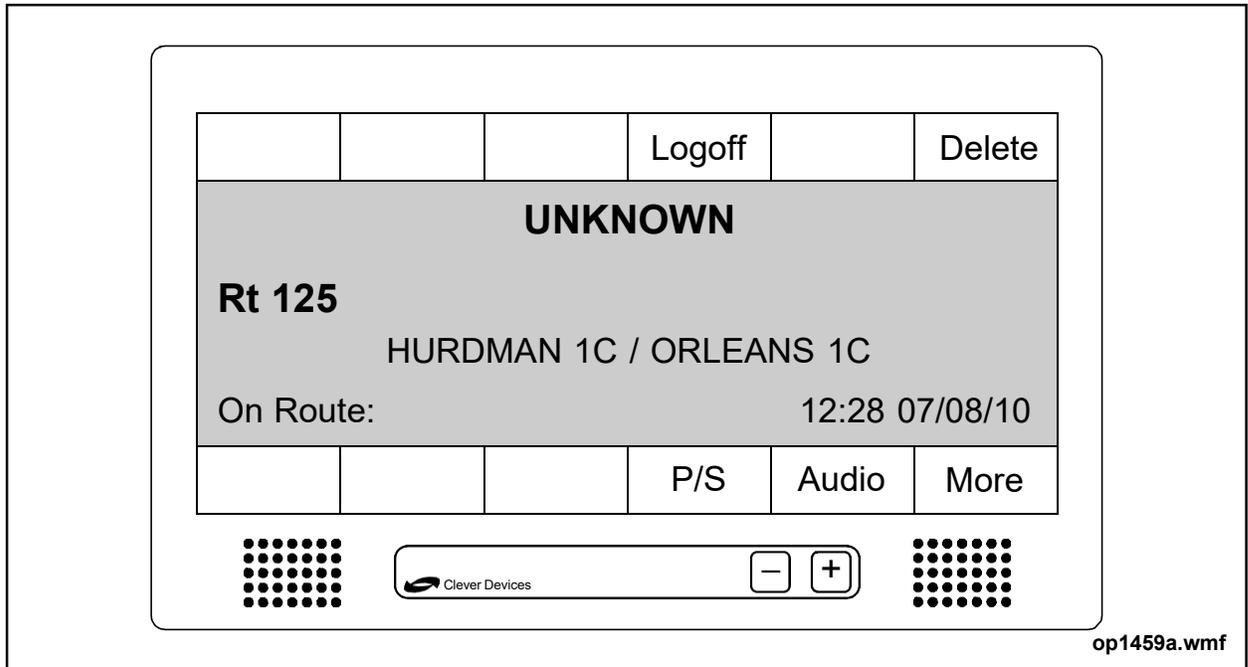

Figure 22: Main Menu Screen
- Use the number keys to enter a run number and then press the <Enter> softkey. The Main Menu screen will appear. See “Figure 22: Main Menu Screen” on page 55.